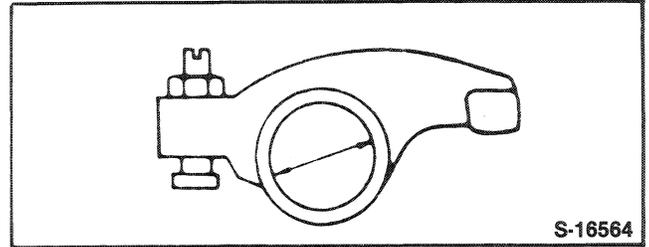

Figure 30
7. Using a hole gauge, measure the inside bore diameter of the rocker arm, Figure 30.